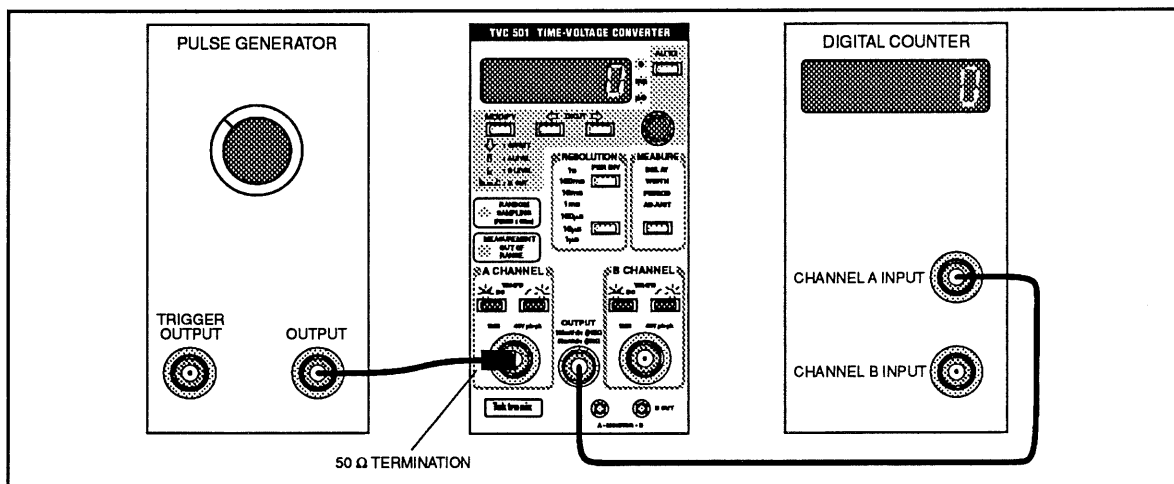

Figure 2-3. Channel A Minimum Pulse Width Test.
This procedure verifies that the TVC 501 can trigger on the minimum pulse width and that the output measurement is accurate. Refer to Figures 2-3 and 2-4 when performing this procedure.
3. Using a BNC-to-BNC cable and 50- Ω termination, connect the Pulse Generator output to the TVC 501 **A CHANNEL** input as shown in Figure 2-3.